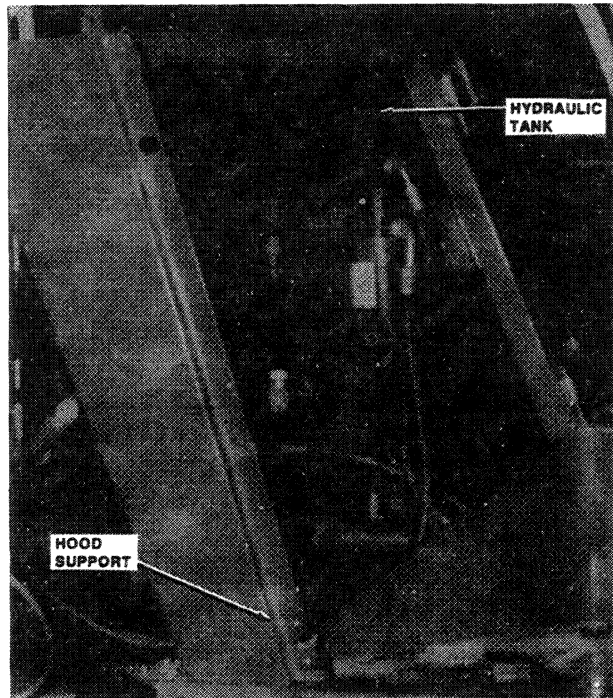

FIGURE 2-11: Hydraulic Tank and Hood Support Removal
- Remove hardware securing rear hood support and hydraulic tank. Tip hood support and tank towards cab (Figure 2-11).
9. Reposition rear hood support and hydraulic tank (Figure 2-11).